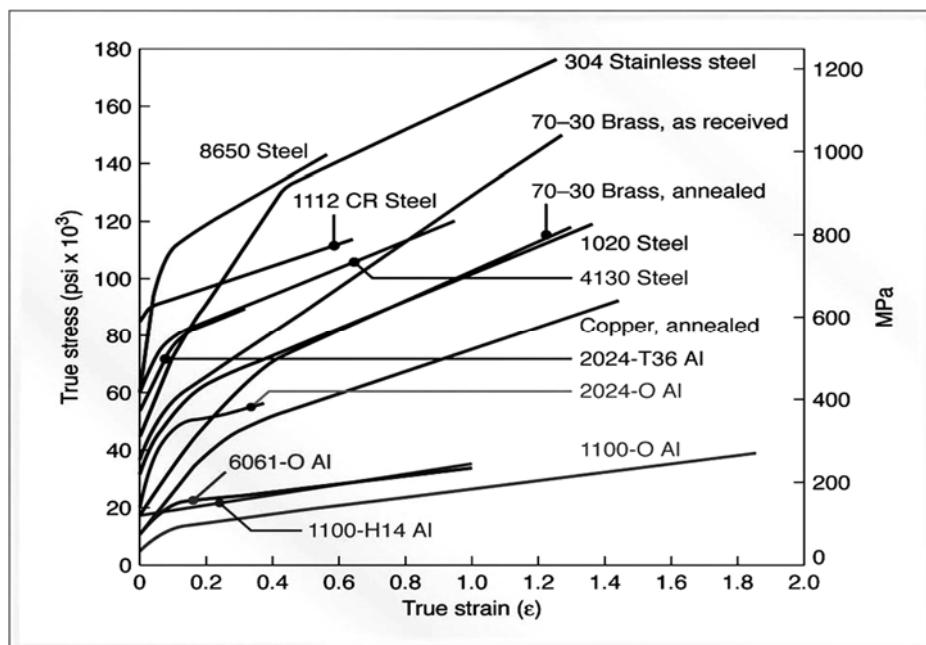

Figure Q3[c]
- [c] A solid copper cylindrical slug is 10 mm in diameter and 150 mm high. It is reduced in height by 30% at room temperature, using a open-die forging with flat dies. Assuming that the coefficient of friction is 0.35, determine the flow stress and calculate the forging force at the end of the stroke. Use the Figure Q3 [c] diagram to get the flow stress.